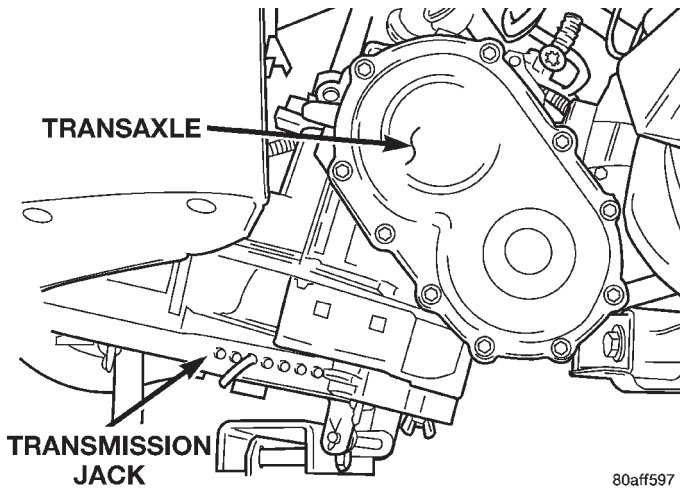

Fig. 63 Transmission Jack
- (29) Position transmission jack under transaxle and support with safety chain (Fig. 63).
- (30) Remove upper and lower transaxle bell housing bolts.
- (31) Move K-frame rearward and carefully lower the transaxle assembly from vehicle.